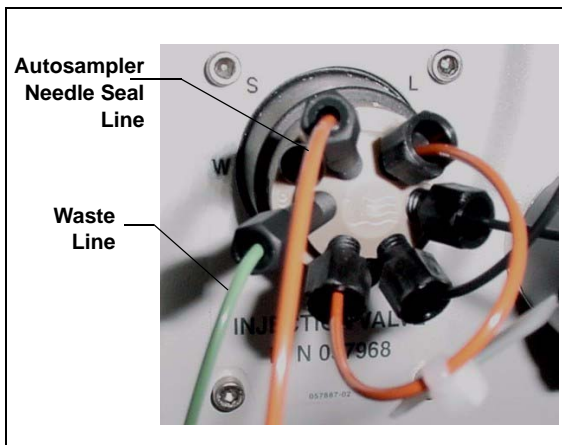
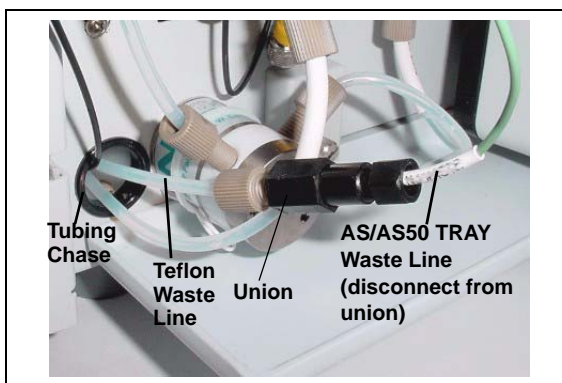

Figure B-39. ICS-1000 Injection Valve
Figure B-40. Injection Valve Waste Line Union
4. Connect the needle seal line from the autosampler to port **S (5)** on the injection valve (see Figure B-39).
The green waste line that is connected to port **W (6)** on the injection valve (see Figure B-39) is connected with a union to a Teflon waste line (see Figure B-40) and routed through the tubing chase to the ICS-1000 rear panel.